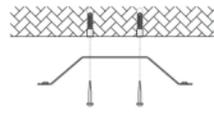

Figure9
2. Insert the supplied rubbers into the alignment holes, then fix the mounting plate on the ceiling by supplied screws. (Figure 9)